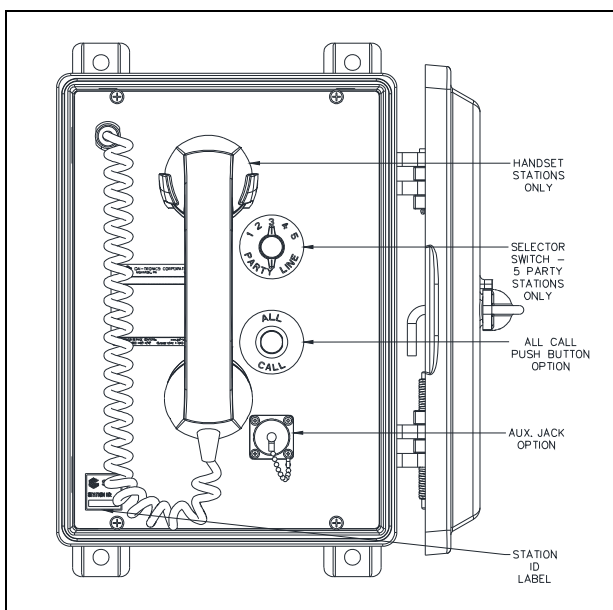
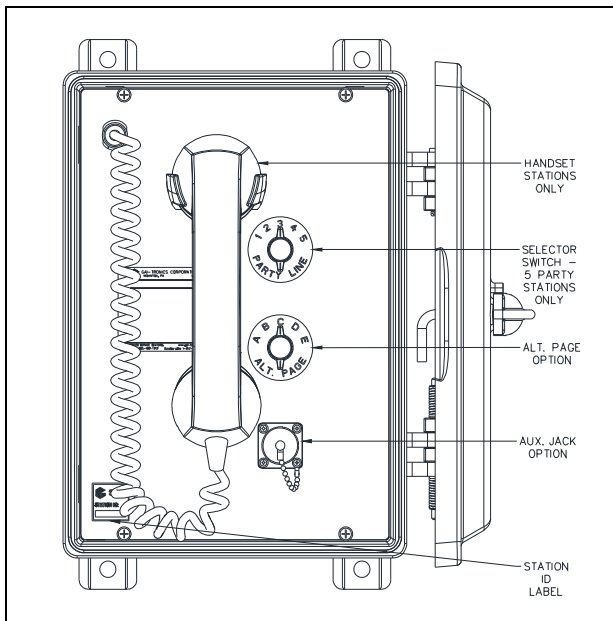

Figure 11. All-Call Button Option
Figure 12. Alternate-Page Switch Option
Use the **ALL-CALL** option button to page an alternate destination that has been programmed for the station (see Figure 11). The All-Call option must be software configured for the SP2 station. To initiate a page using the **ALL-CALL** feature:
Use the ALT-PAGE option selector switch to page one of five alternate destinations that have been programmed for the station (see Figure 12).
1. Attach the headset assembly to the auxiliary jack on the station (see Figure 11 or Figure 12).